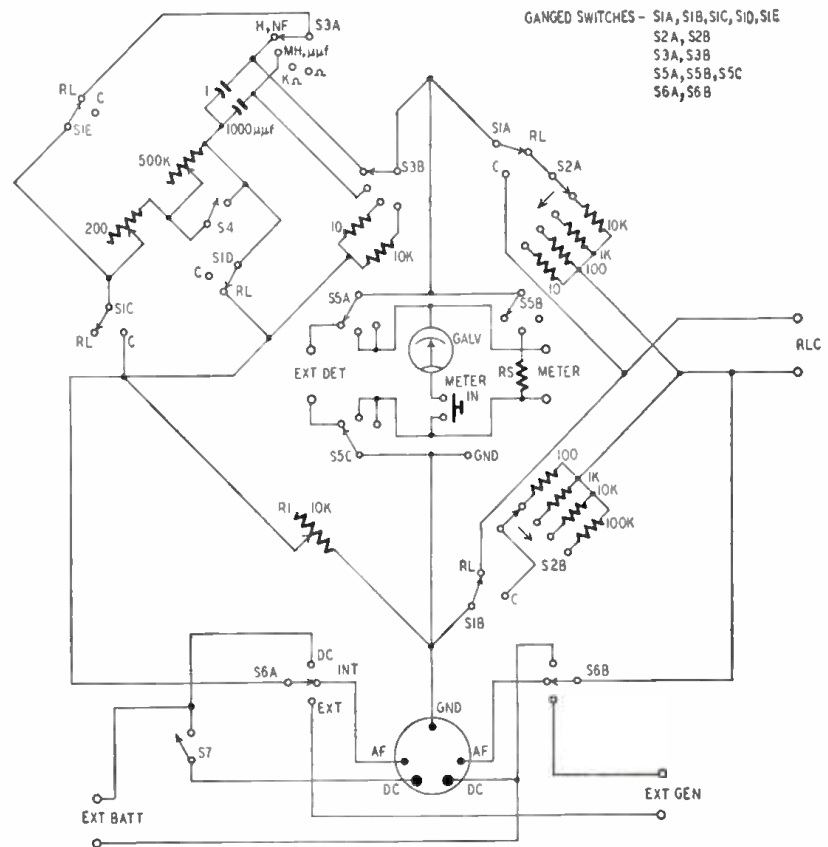

Fig. 2—Switches and controls in the bridge circuit provide for four ranges of R, C, and L.
**MATERIALS FOR BRIDGE—Fig. 2**